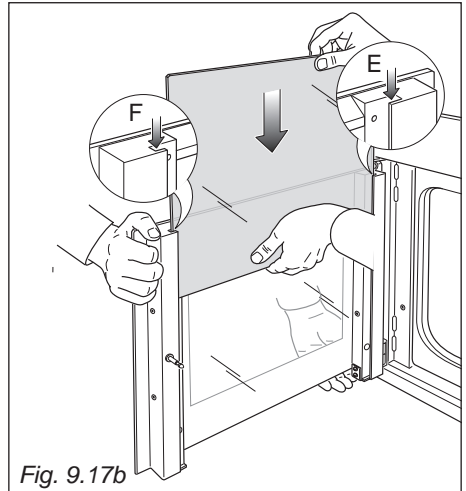
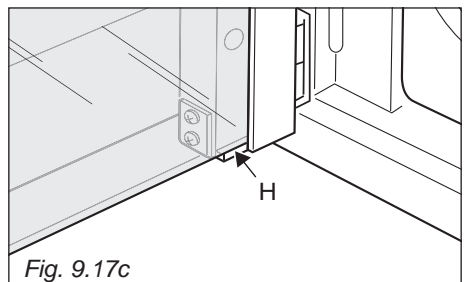

Fig. 9.17b
Fig. 9.17c
- Whilst one person holds the door still, a second person should insert the inner pane in the left “E” and right “F” side guides (fig. 9.17b) and gently let it slide up to the retainers “H” (fig. 9.17c). forcible replacement of the door glass may lead to damage of the door hinges.